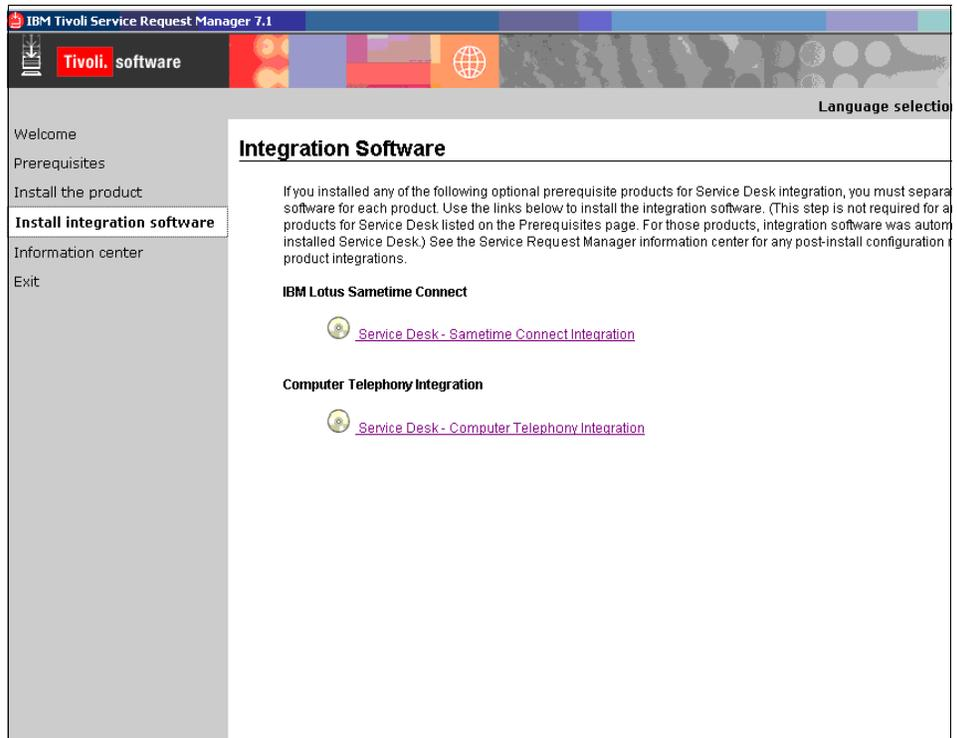

Figure 7-1 Installing Sametime integration
3. Select **Service Desk-Sametime Connect Integration** (Figure 7-1 on page 203).